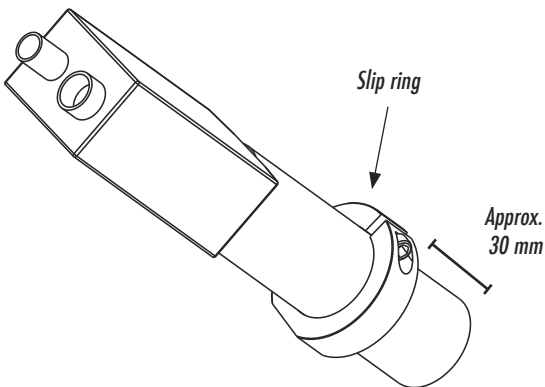

Figure 4.1: The optical tube should extend approximately 30 mm below the slip ring.
- 1) Locate the optical tube and the 9/64 Allen wrench in the accessories kit. Using the Allen wrench, loosen the slip ring (refer to Figure 4.1). With the threaded end of the optical tube pointing up, slide the optical tube through the slip ring so that approximately 30 mm extends below.